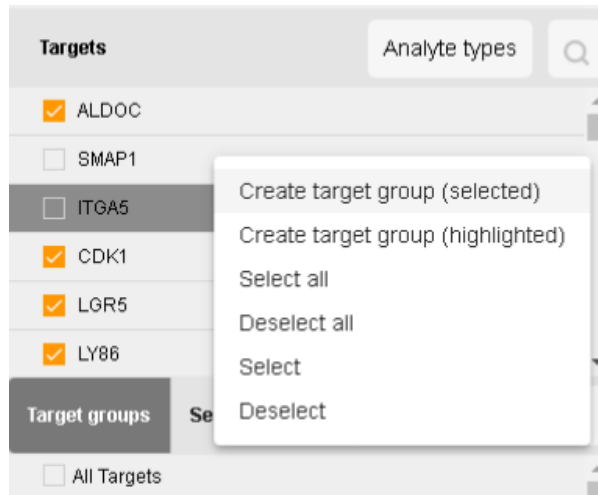

Figure 67: Creating a probe group from the probes section of the Datasets pane
3. Right-click in the targets list and select **Create Group (selected)** (if you clicked on/off probes in the Targets list) or **Create Group (highlighted)** (if you highlighted targets using a visualization) to save this as a new target group (see Figure 67).